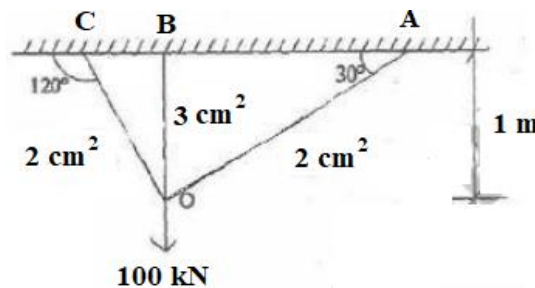

Figure 2
3. Determine the force in the members of the truss as shown in figure 2. Take  $E=200\text{GPa}$ . [15]